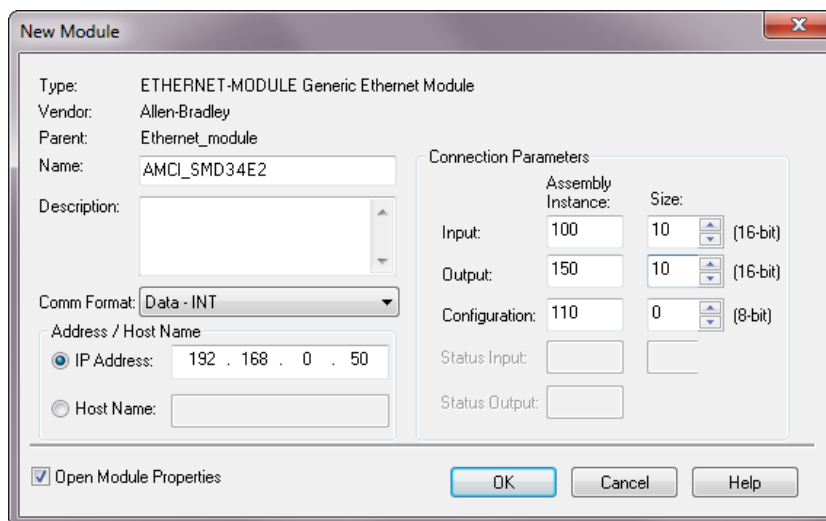

Figure T4.3 Configuration Screen - Generic Device
- 6) Set the following parameters in the Module Properties window. All parameters not listed here are optional. Figure T4.3 shows a completed screen.